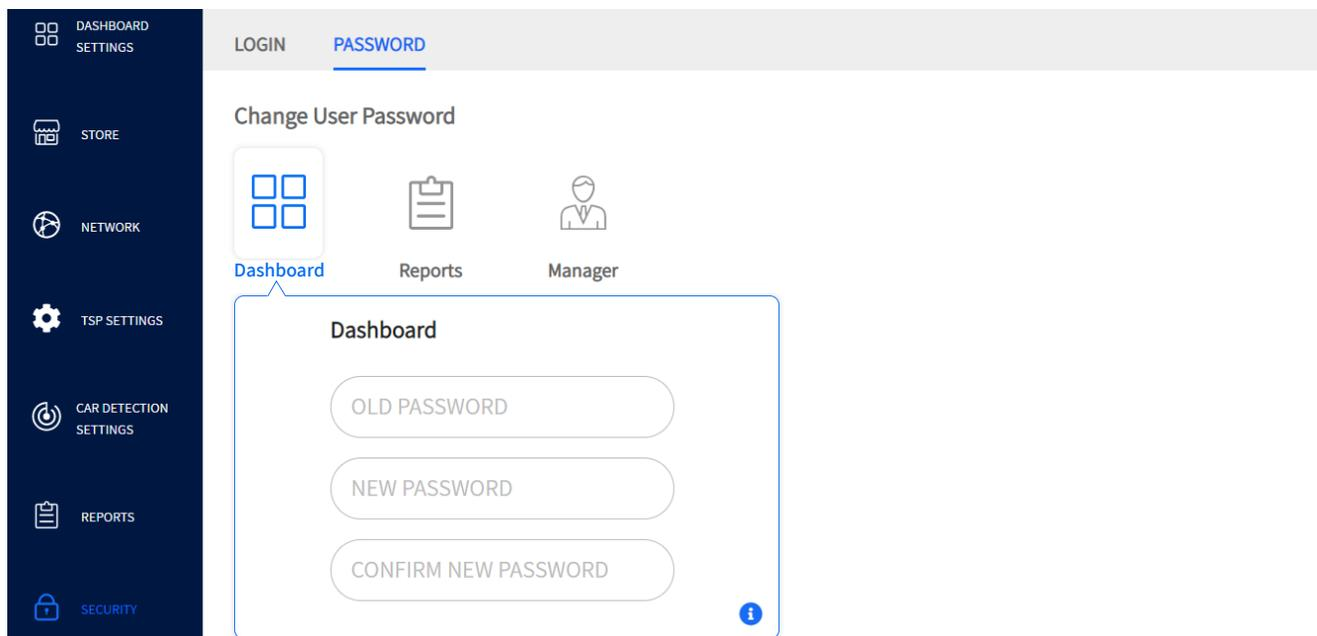

Fig. 9.3
**Why is it needed?** Passwords are a security measure to ensure that only authorized personnel can access your system. It is also used to restrict access to certain features. In Fig. 9.3, the Dashboard password screen is active.